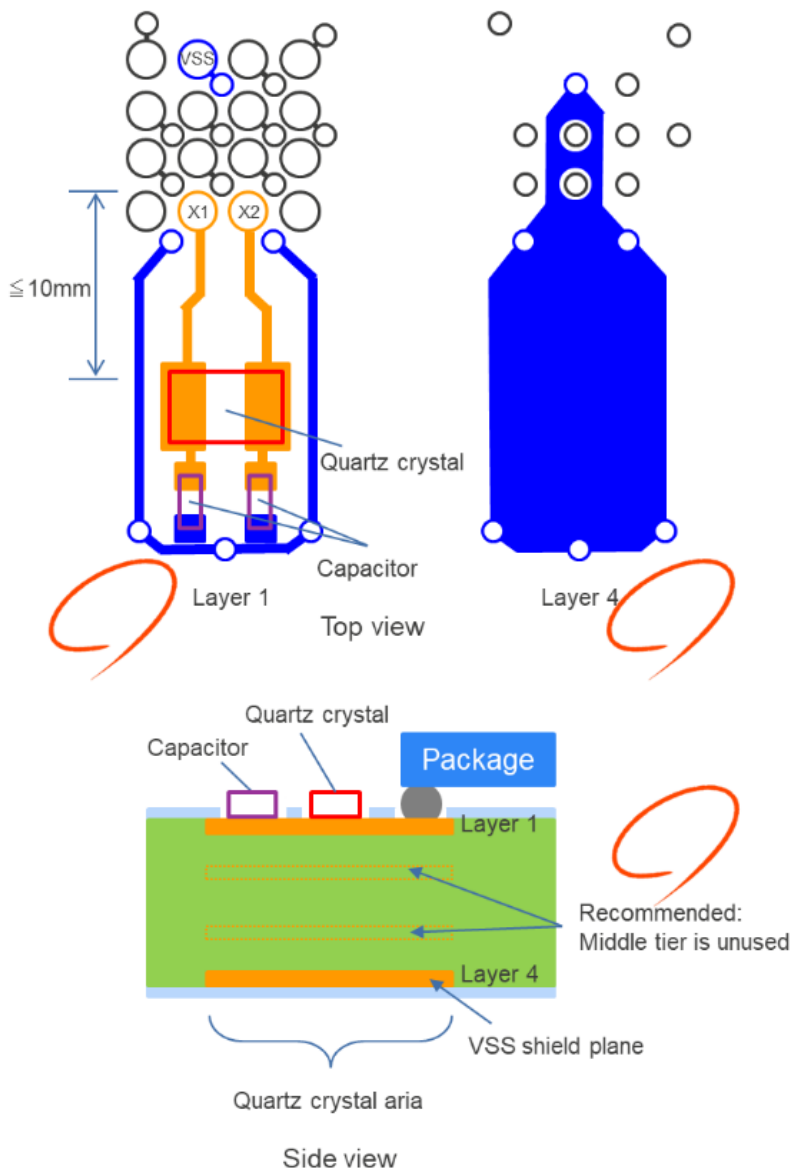

Figure 15, Recommended design image of OSC
- The layer below the peripheral circuit of the crystal does not allow the trace of signals, power supplies, or VSS patterns (See Figure 15).
- OSC signal trace is wired with a trace width of 0.1 mm on the microcontroller mounting surface, and VSS shielding is performed at the same layer and the bottom layer. There is nothing in the middle layer, including other signals. A distance of 0.3 mm should be maintained between OSC signal traces in the same layer and other signal traces (especially traces with large currents and high-speed signal patterns) and VSS shields. (See Figure 15)
- Place the crystal as close as possible to the terminals (within 10 mm). (See Figure 15)